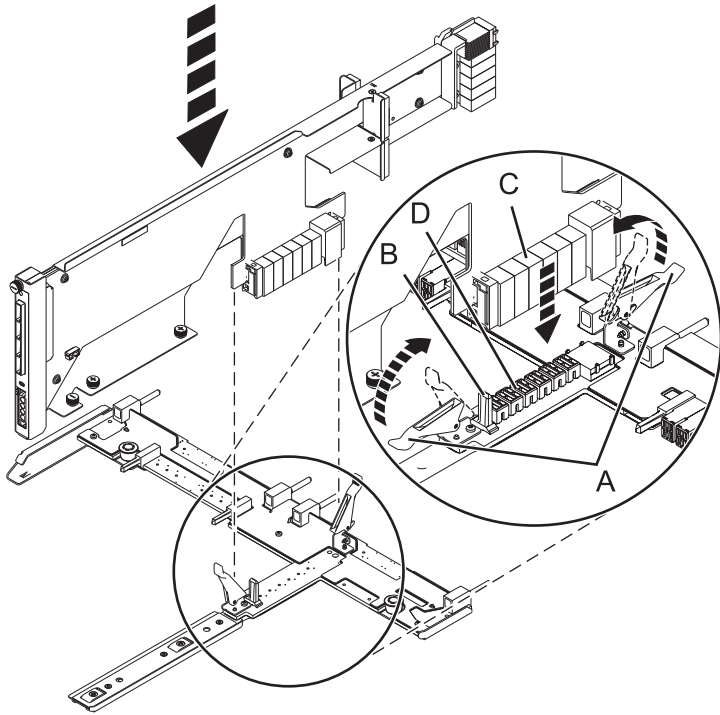

Figure 70. Installing the SAS conduit card into the midplane
- a. Place the card connector (C) on the midplane connection (D) using the guide track (B) to ensure a good connection.
- b. Lift the handle (A) to seat and secure the SAS conduit card to the midplane as shown in Figure 70.